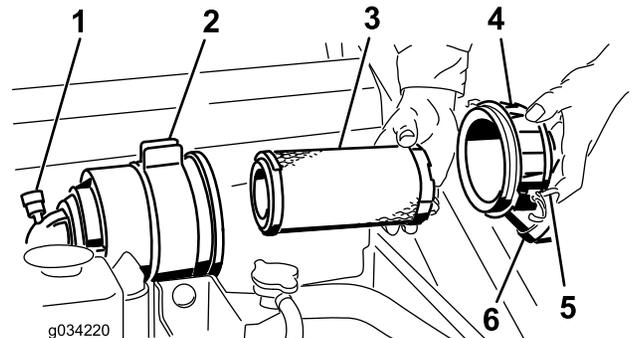

Figure 36
**Important:** Service the air cleaner filter only when the service indicator shows red (Figure 36). Changing the air filter before it is necessary only increases the chance of dirt entering the engine when the filter is removed.
4. Release the latches on the air cleaner and pull the air-cleaner cover off the air-cleaner body (Figure 36).
1. Gently slide the primary filter out of the air-cleaner body (Figure 36). Avoid knocking the filter into the side of the body.
3. Carefully slide the primary filter into the filter body (Figure 36). Ensure that it is fully seated by pushing on the outer rim of the filter while installing it.
4. Install the air-cleaner cover with the side indicated as UP facing up and secure the latches (Figure 36).